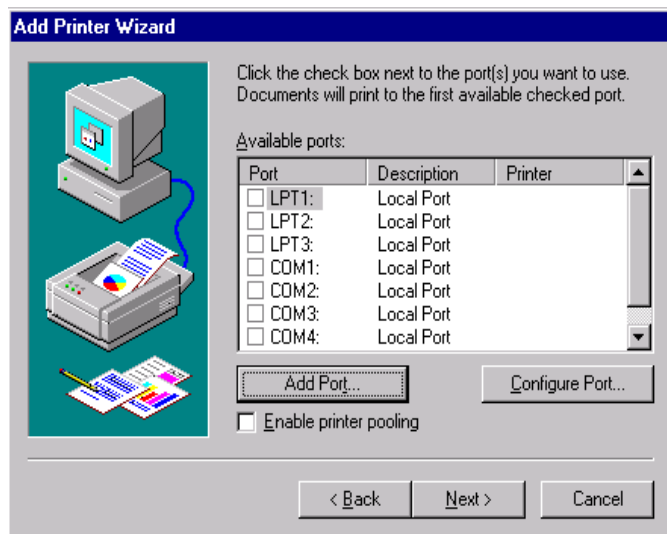

Figure 7-2
10. The following screen as shown in Figure 7-2 will then appear, click Add Port.